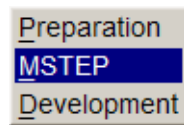

Figure 1.18: BSE menu
1. Select menu **BSE**→**MSTEP** to enter MSTEP solver module as shown figure 1.18.